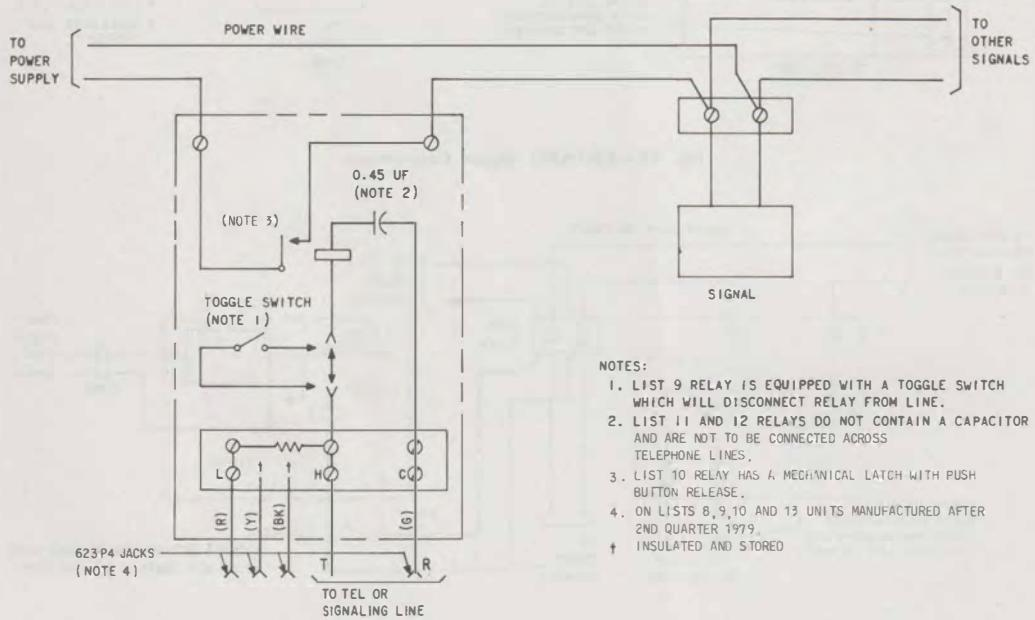

Fig. 27—KS-16626 Power Relay Set Connections
6.04 Typical connections for signals which do not have a self-contained power relay are shown in Fig. 27. These signals require commercial power wiring between relay set and signal. For information on the KS-16626 Power Relay Set, see Section 463-120-100.